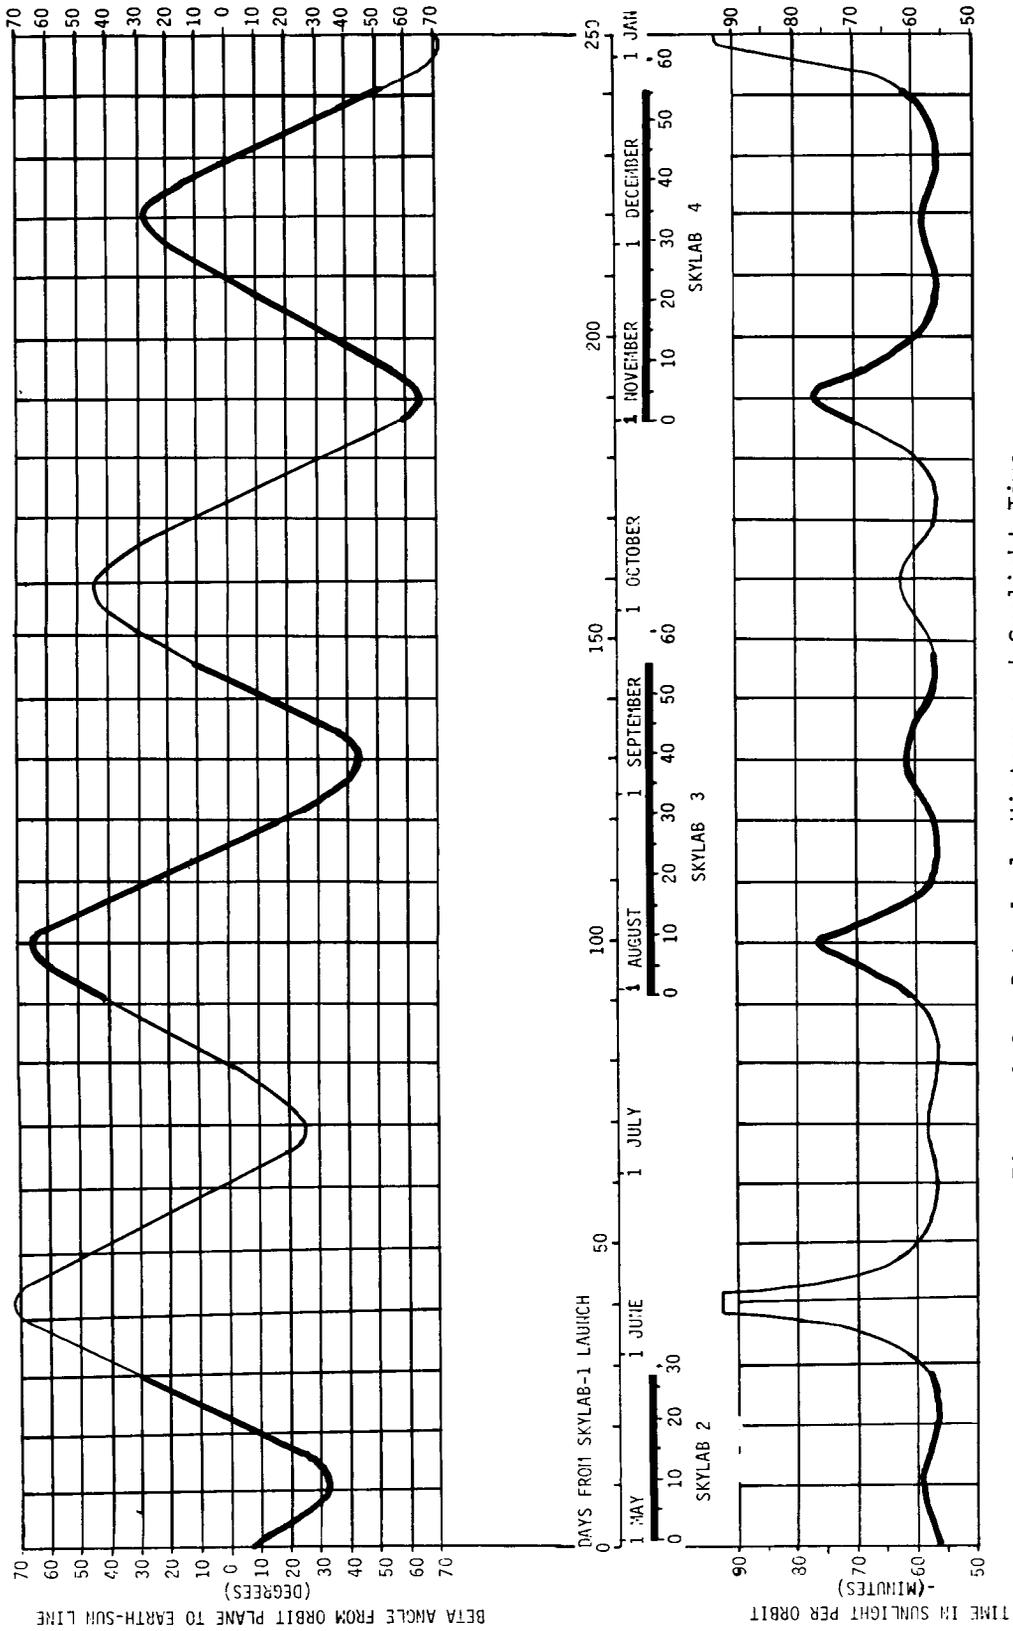

Figure 1-3. Beta Angle History and Sunlight Time
4. Figure 1-3 presents the beta angle history and sunlight time for Skylab.